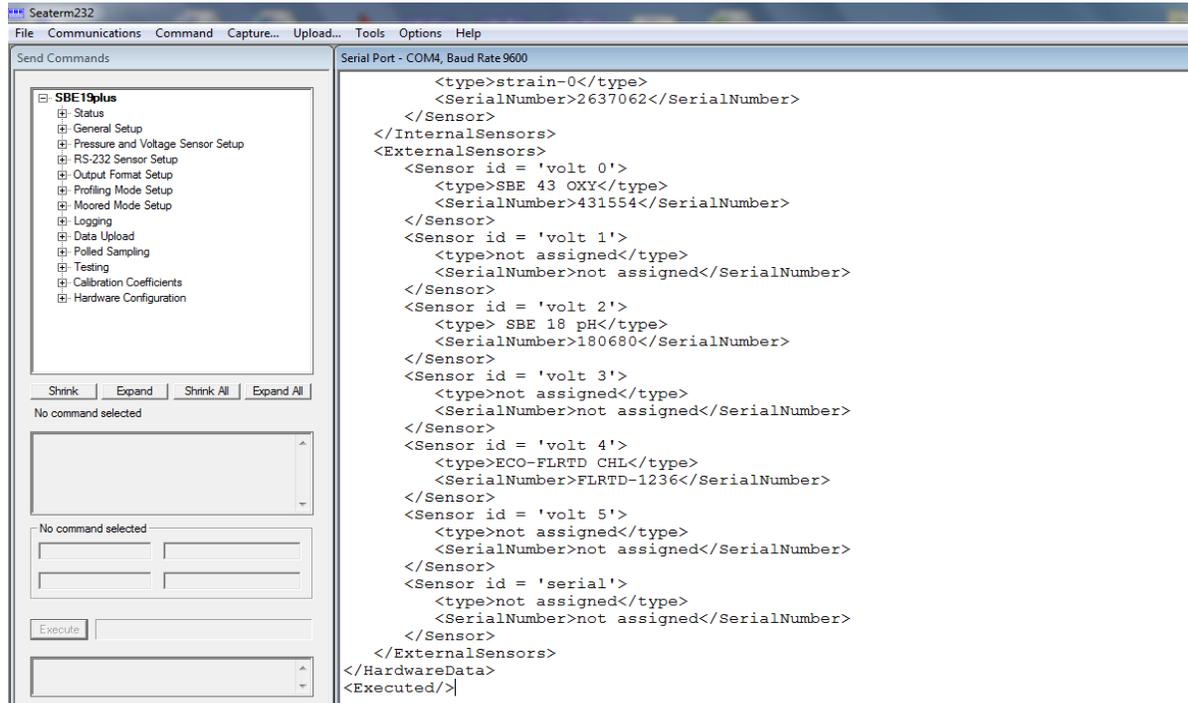

Figure 3.1 SeaTerm V2 establishing communication.
3. Choose SBE 19plus V2 (probably item C or D). Your tablet and profiler will attempt to communicate and if they are successful, your screen will now look something like Figure 3.1 with an <Executed/> prompt at the bottom, which means the profiler is ready for a command.